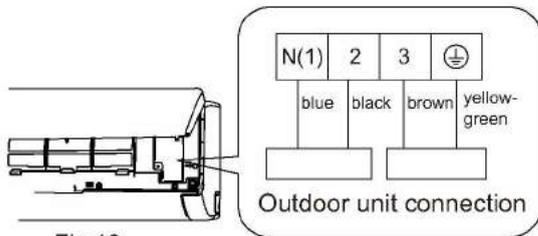

Fig.13
(3) Remove the wire clip; connect the power connection wire and signal control wire to the wiring terminal according to the color; tighten the screw and then fix them with wire clip. (As show in Fig. 13)